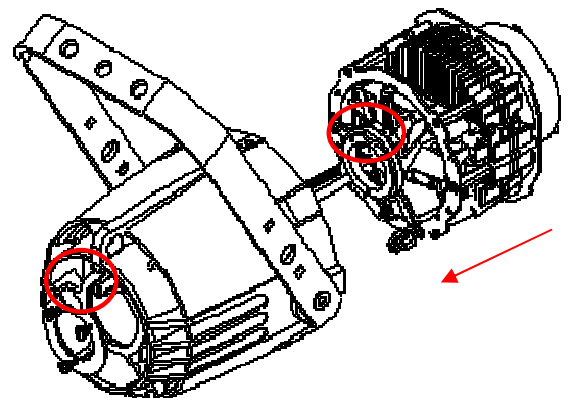

Fig.3
7. Accommodate the HPLED II C5 in the Source4 body. Ensure the correct inward direction is followed as remarked by the 2-red-round ring references. Make also sure to follow the red arrow direction as shown in figure 3. During such operation make sure that the 3 connecting cables (i.e. power cable, DMX cable and display cable) are not squeezed, while being lead through loop-holes during reassembling of the unit.